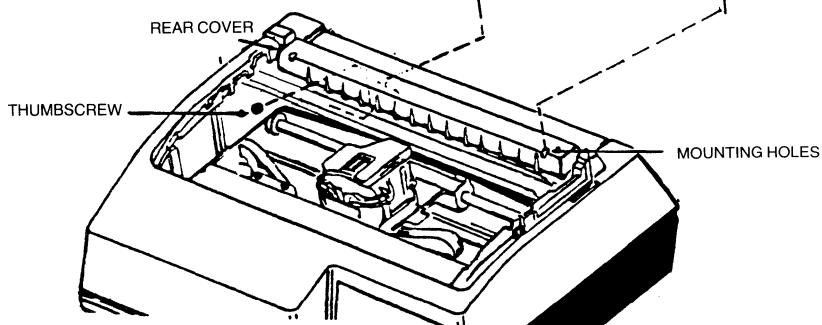

Figure 1-5 Attaching the Paper Rack Outlet.
6. Carefully open the rear cover and place the thumbnuts on the threaded part of the mounting arms. (See Figure 1-5.)